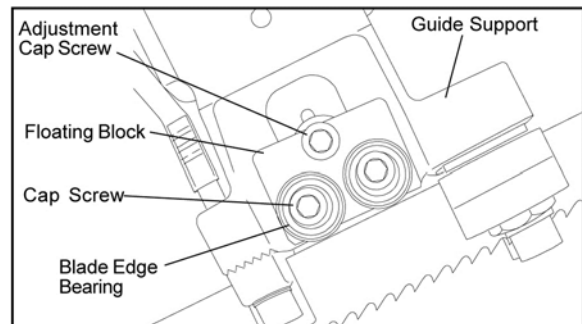

Figure 18: Blade edge bearing replacement
5. Adjust the bearings on the upper edge of the blade until they just contact the blade (see Figure 18).
1. Remove the capscrew from the blade edge bearing being replaced and discard the bearing. Be careful not to lose the spring washer that separates the bearing from the floating block (see Figure 18).